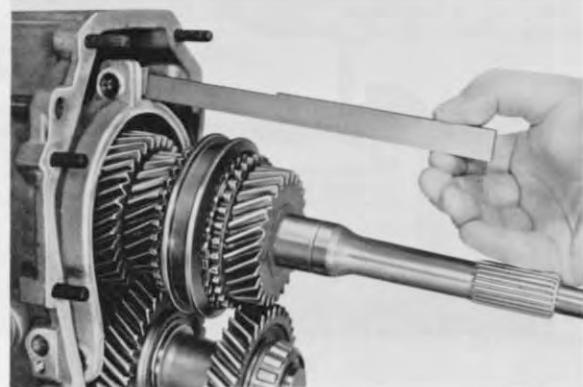

Fig. 15
- Take off selector fork 4th and 5th gear (601).
- Dismantle selector rods (608, 612 and 614) (Fig. 15).